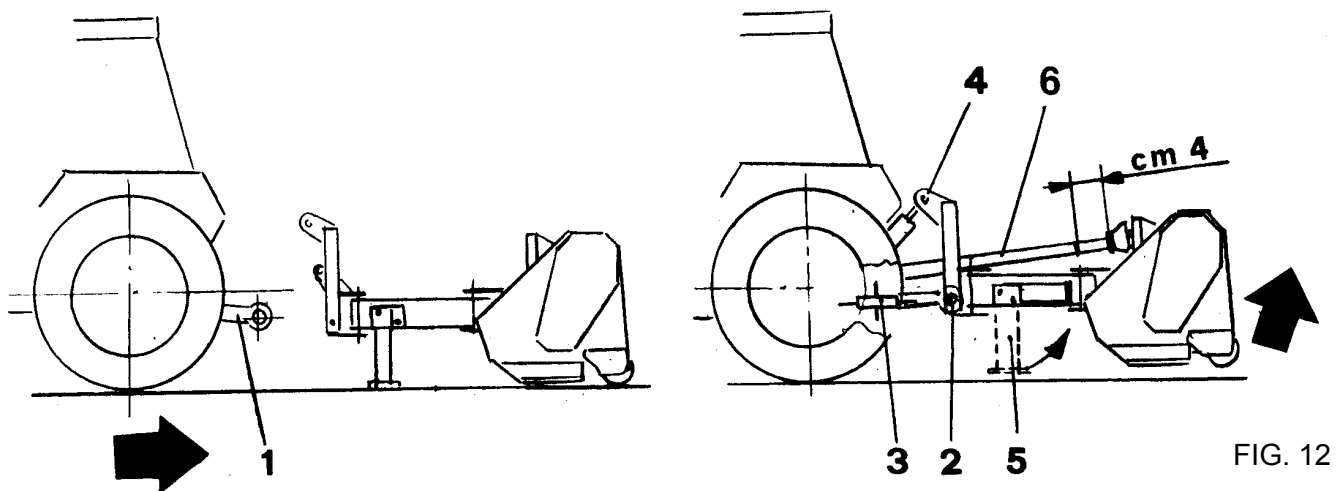
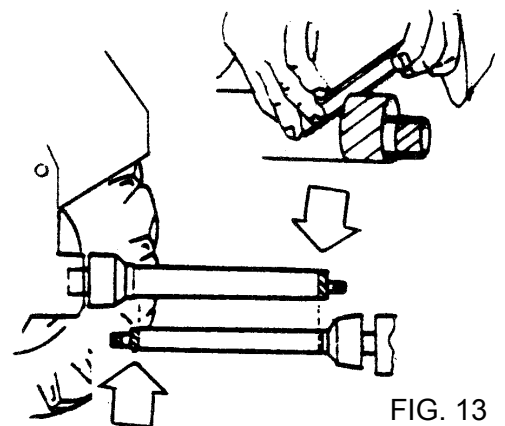
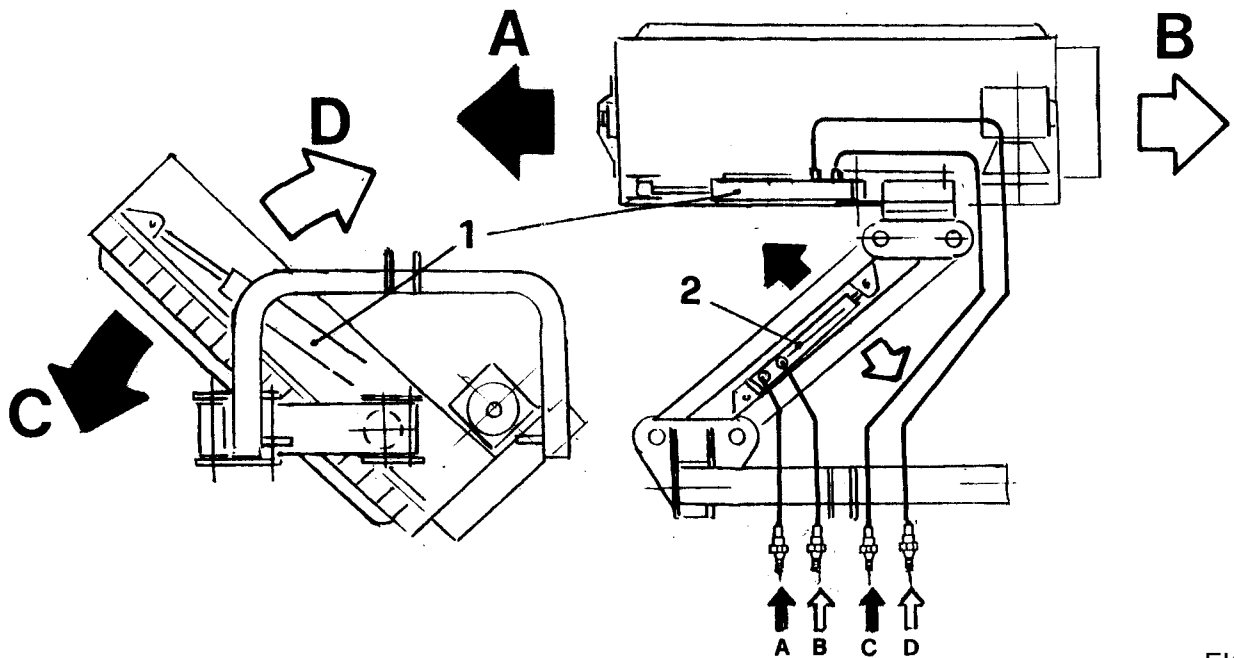

FIG. 12
FIG. 13
FIG. 21
- To attach the machine to the tractor (FIG 12), bring the tractor lower lines (1) near the shredder, to the points corresponding to the pins.
- Insert the pins (2) and secure them with the spring clips (3).
- Fit the top link (4), raise the shredder to a perpendicular position with the ground. Adjust the two tractor lower linkage stabilizers (3) thus fixing the machine to the tractor in a central position.
- Lift the stand (5)
- Connect the pipes for ram control to the tractor and mark them to avoid reversing them during assembly (see FIG. 21)
Following the instructions in 4.3, assemble the PTO shaft (6) and check that the overlap is not less than $\frac{2}{3}$ of L. Be sure to keep a 4 cm. backlash (FIG. 12). If it needs shortening, proceed as in (FIG. 13).
- Ram (1) (FIG. 21) controls the adjustment of the flail head.
- Ram (2) (FIG. 21) controls side movement of the flail head.